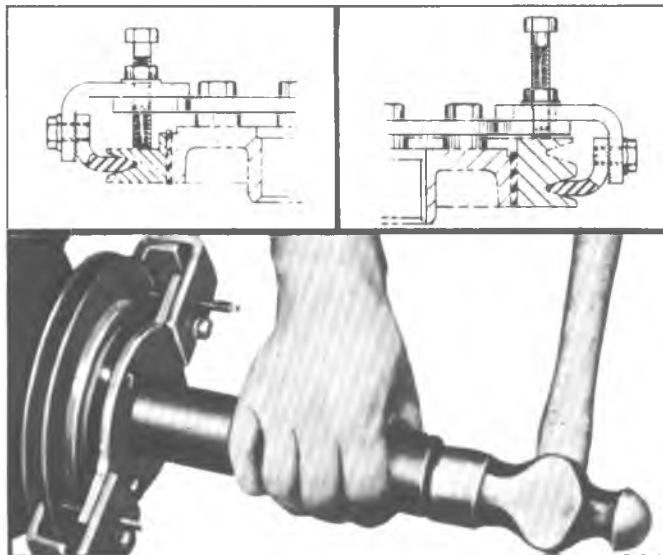

Fig. 16L—Installing Torsional Damper (Drive on Type)
- a. Attach damper installer Tool J-22197 to damper. Tighten fingers of tool to prevent inertia weight from moving (fig. 16L).
- b. Position damper on crankshaft and drive into position, using J-5590, until it bottoms against crankshaft gear (fig. 16L). Remove installer tool.